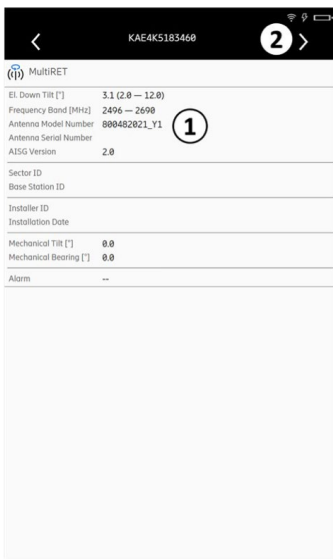

Fig. 67: Devices: Properties of the selected subunit
② Opens the settings of the selected subunit
1. Tap ① in Fig. 67 to open the list with the individual subunits. The following page is shown: